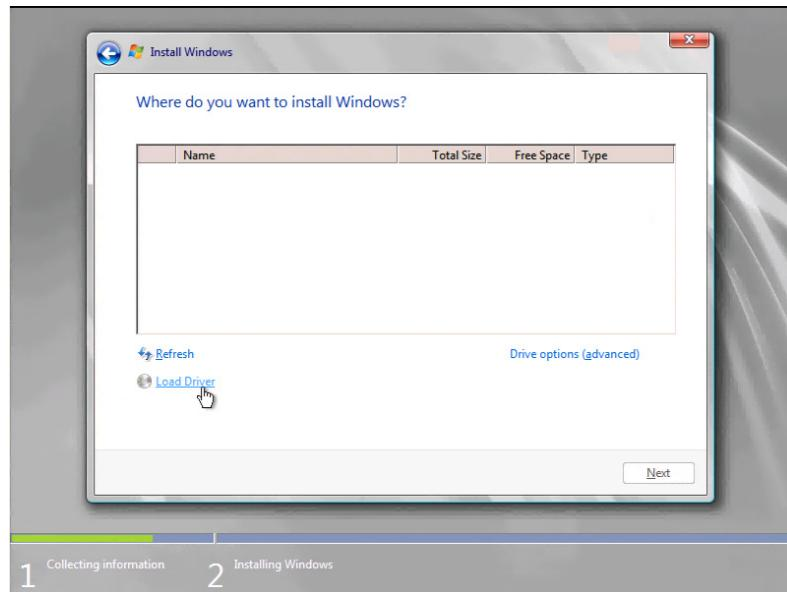

Figure 3-38. Windows Installation Location
4. When prompted to indicate where to install Windows (Figure 3-38), click **Load Driver**.